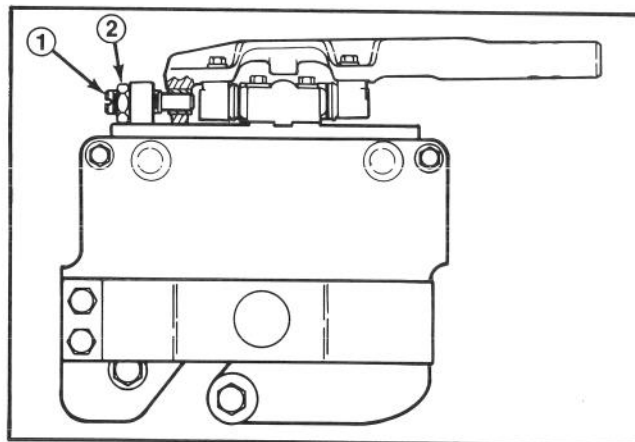

Figure 16
- B. Fixed Position (Fig. 16) — Generally used for heights-of-cut above one inch (25 mm), where more than approx. 1" (25 mm) of grass is being removed, the front roller is fully raised in the anti-scalp position or when skids or dethatching units are installed. In the fixed position, cutting units are locked to the pivot arm and do not follow uneven contours in the turf as they would in the float position.
Fixed Positions: Loosen jam nut on lockout pin and screw pin into hole in pivot arm (Fig. 16). Tighten jam nut to secure lockout pin.
- A. Lock cutting unit in fixed position (refer to Cutting Unit Orientation, Fig. 16).
1. Lock each cutting unit in the fixed position (Refer to Cutting Unit Orientation, Fig. 16). Set the reel to bedknife adjustment and height-of-cut adjustment (Page 9-11).